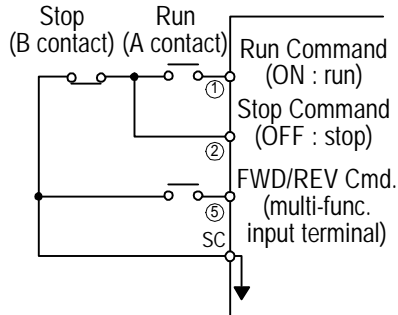

Fig. 38 3-wire mode connection diagram
Under 3-wire initialization mode (Sn-03= 8 or 10 or 12) , the multi-function input terminals ⑤~⑧ have setting “00”, the inverter will be in the 3-wire mode operation. As shown in Fig. 38, the Forward/Reverse change mode is set at the terminal ⑤.